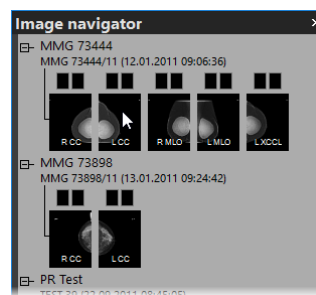

Figure 457 – Display image using the image navigator
2. Expand the selected mammography study and click the required image preview in the image navigator (see Figure 457).